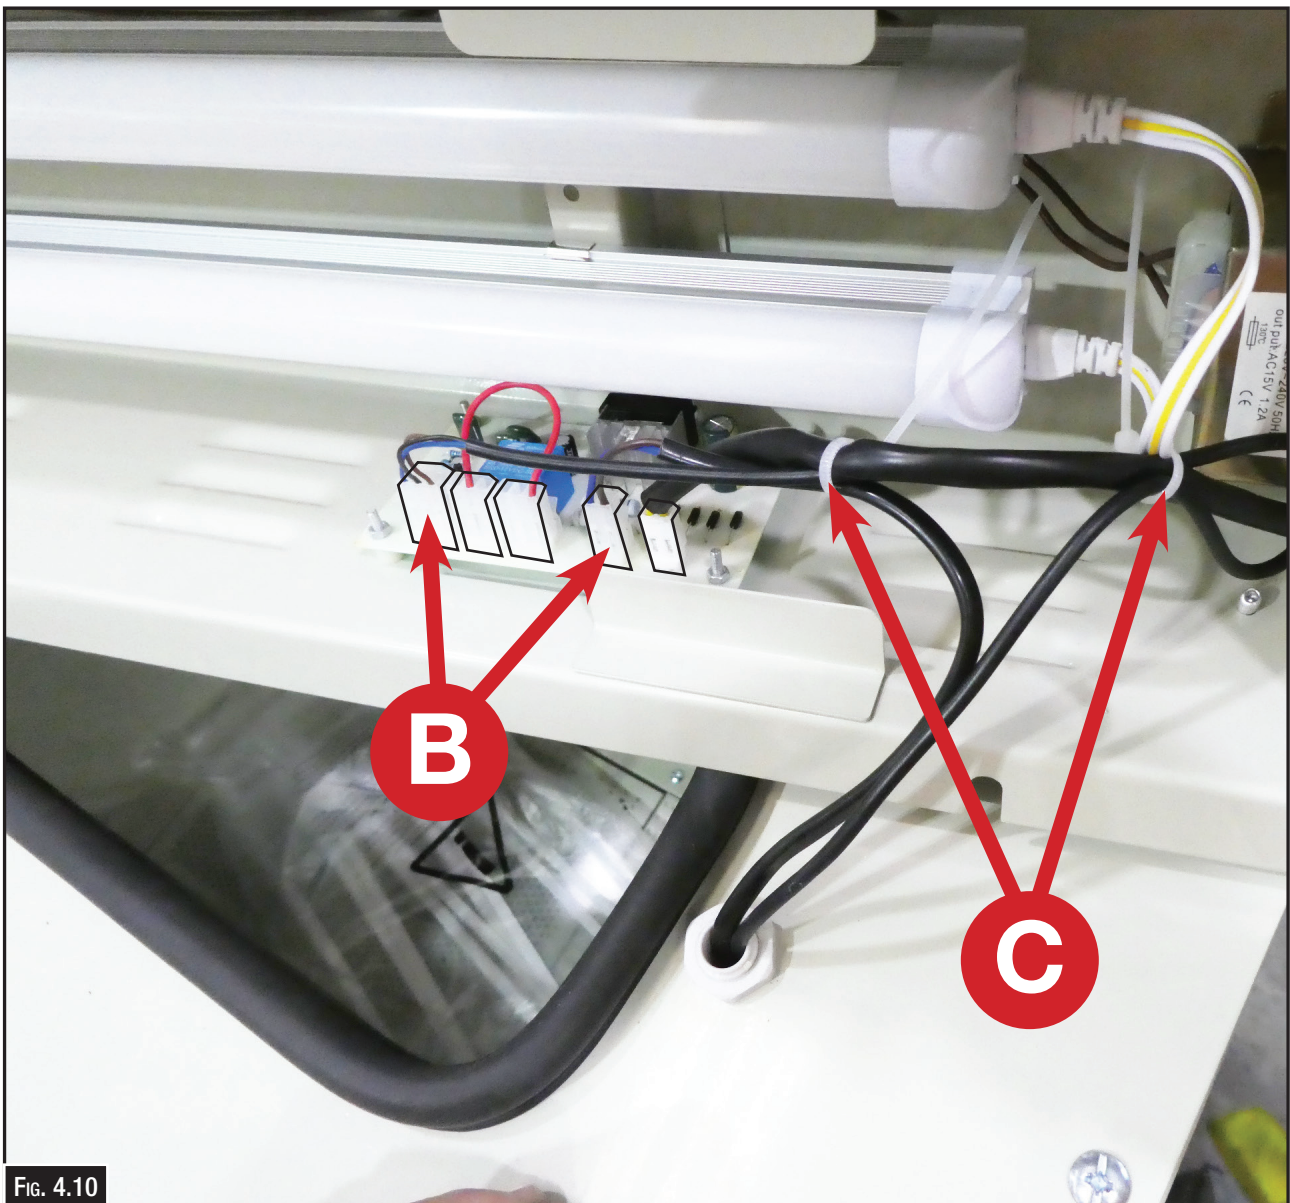

Fig. 4.10
10. At the opposite end of the light, connect the two push-on connectors to the circuit board as shown (B). Ensure both connectors are securely seated. (Fig. 4.10)
11. Using the supplied cable ties, neatly secure any excess cable out of the way (C). (Fig. 4.10)